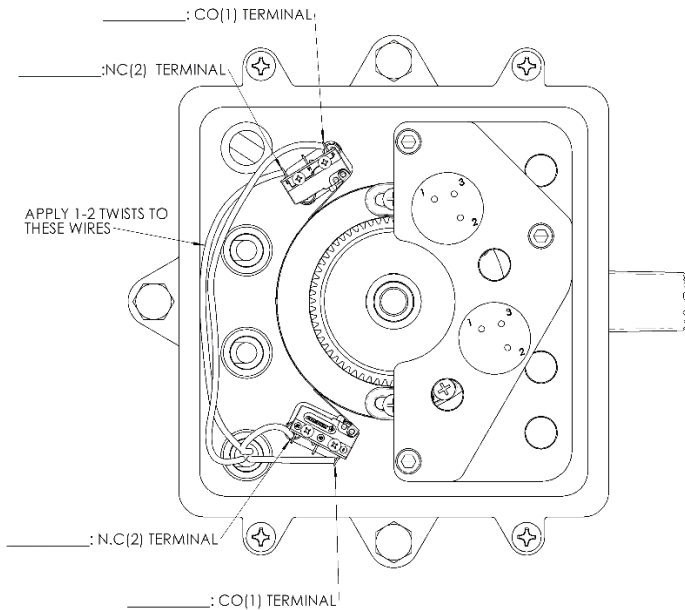

Figure 13: Wiring schematic for customer fill out, two switch module
1. Note connections of all wires going to the old microswitches prior to disconnecting. It is recommended to fill out the colors of wire going to each terminal on the diagram shown in Figure 13. On the old microswitch, Kobelt PN 6001-0104, the terminals are labelled 1 and 2 and correspond to terminals 1 and 2 on the new microswitches.